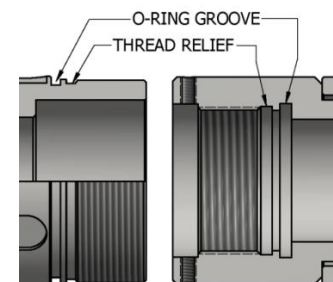

Fig. 2
- CAUTION6:** To ensure tool operates properly, install o-rings in o-ring grooves **NOT** thread reliefs (Fig. 2).
- L-1) Clamp inner mandrel (2) in vise.
- L-1.1.1) Install spring retaining ring (28) into upper slip body (6).
- L-1.1.2) Screw spring cage (5) into upper slip body (6).